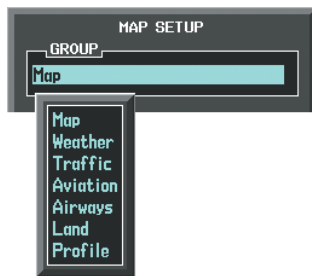

Figure 6-70 Navigation Map Page Setup Menu
- 4) Turn the small **FMS** Knob to select the 'Profile' Group and press the **ENT** Key (Figure 6-70).